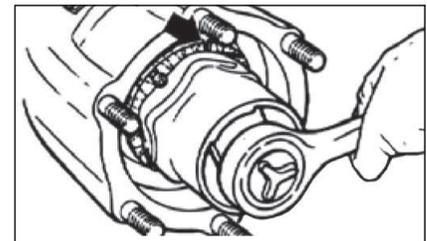

Figure 2
- 3 The lock nut can now be threaded onto the spindle, as shown in Figure 2, and tightened by hand.